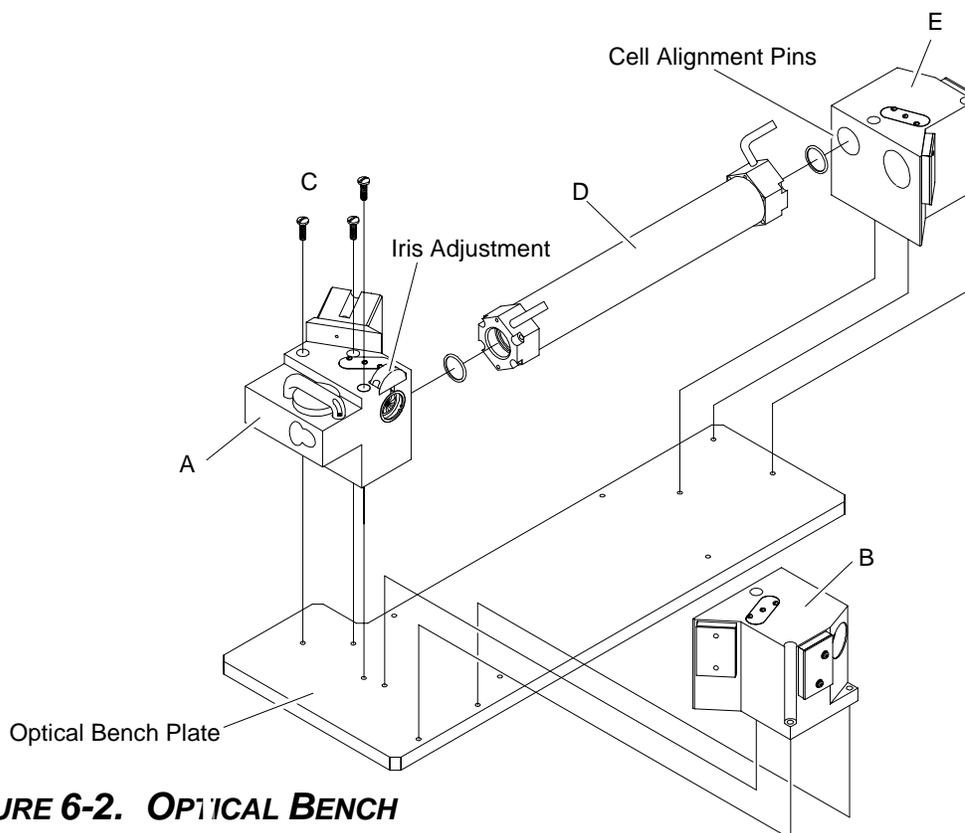

FIGURE 6-2. OPTICAL BENCH
This mechanical adjustment is provided to balance the system. The adjustment is done using the DIAGNOSTICS screen "Detector Signal". With zero gas flowing through the sample cell, adjust the Detector Signal to 0.00 ± 0.1 by moving the iris. See Figure 6-2 for location of iris.
3. Refer to Figure 6-2. Remove block A. Remove the cell
3. Refer to Figure 6-2. Remove the three screws, item C, securing item A.